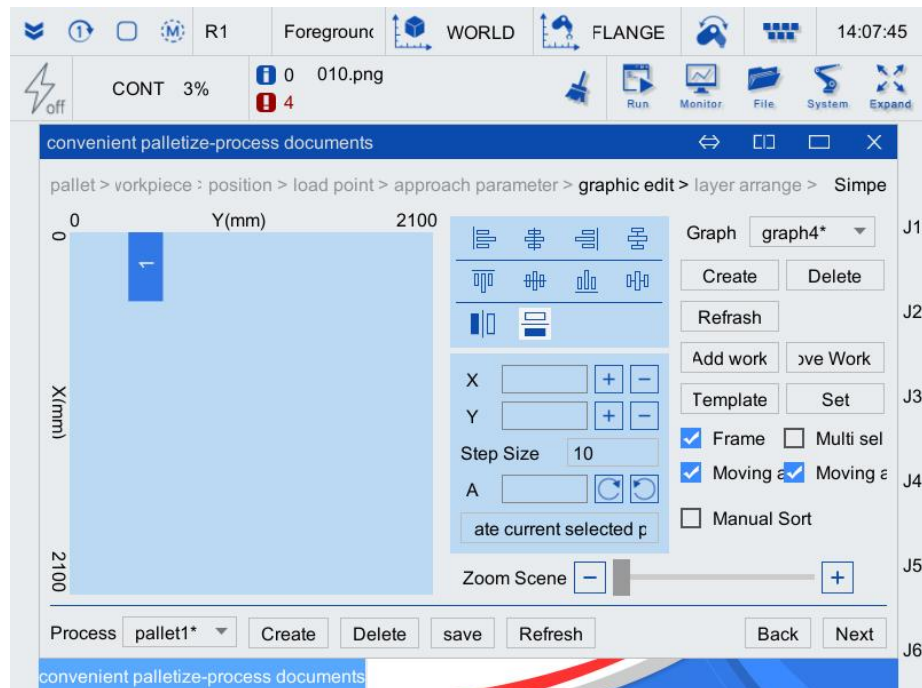

Figure 3-40 Plane graphic editing interface of the fourth layer of pressing seam palletizing
Step19. The workpiece arrangement is shown in Figure 3-40. Click <save> on the right.